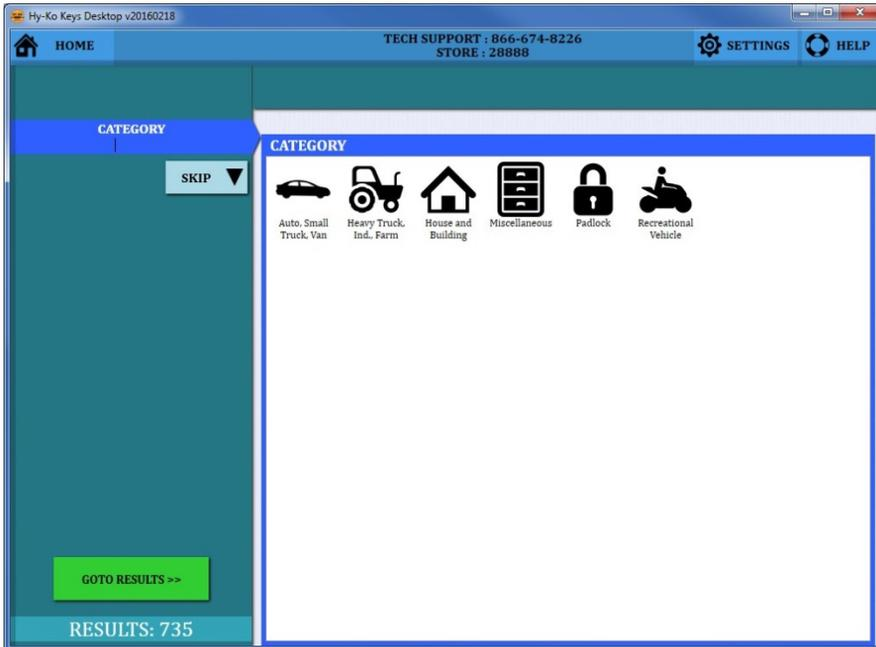

fig. 113
- The **'DATABASE LOOKUP'** app allows you to look up a key blank using usage/application information (see fig. 113).